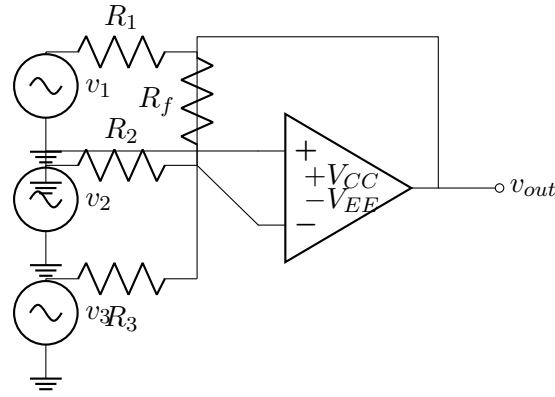

Figure 2.1: Three-input inverting summing amplifier (adder). All inputs sum at the virtual-ground node and are weighted by R_f/R_i .
Figure 2.1 shows a summing amplifier with three input voltages v_1 , v_2 , v_3 applied through resistors R_1 , R_2 , R_3 to the inverting input, which is held at virtual ground. Since no current enters the op-amp's inverting terminal, Kirchhoff's Current Law at this node gives
1. Connect the $\pm 15\text{ V}$ supply to the op-amp and assemble the adder circuit of Figure 2.1 using the designed resistor values.